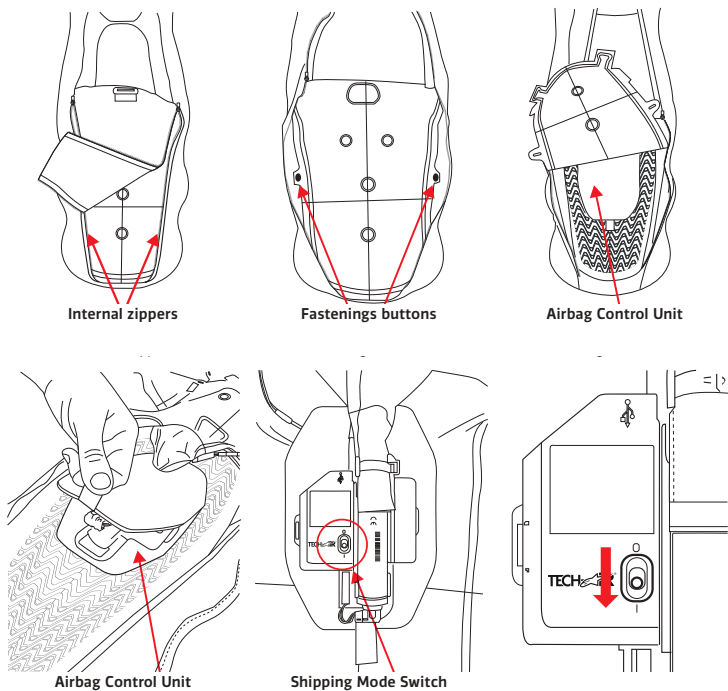

Figure 1 – Deactivate the Shipping Mode
The Tech-Air® MX System (hereinafter referred to as the "System") is shipped with its Shipping Mode activated (with the Shipping Mode Switch (8) in the OFF position, indicated by "O" symbol). Before using the System for the first time, please ensure the battery is connected to the Electronic Control Unit by following these instructions (depicted in Figure 1):
- a) Start with the System laid flat, open the two internal zippers, and lift the fabric central section to access the underlying Airbag (11);
- b) Detach the Airbag (11) by releasing the two fastening buttons, lift the Airbag (11), and use the flap to access the Airbag Control Unit (6).
- c) Locate the Shipping Mode Switch (8) and set it to the ON position, indicated by the "I" symbol.
- d) Next, close the Airbag Control Unit (6) and follow the instructions reported in Section 6, "System Operation."